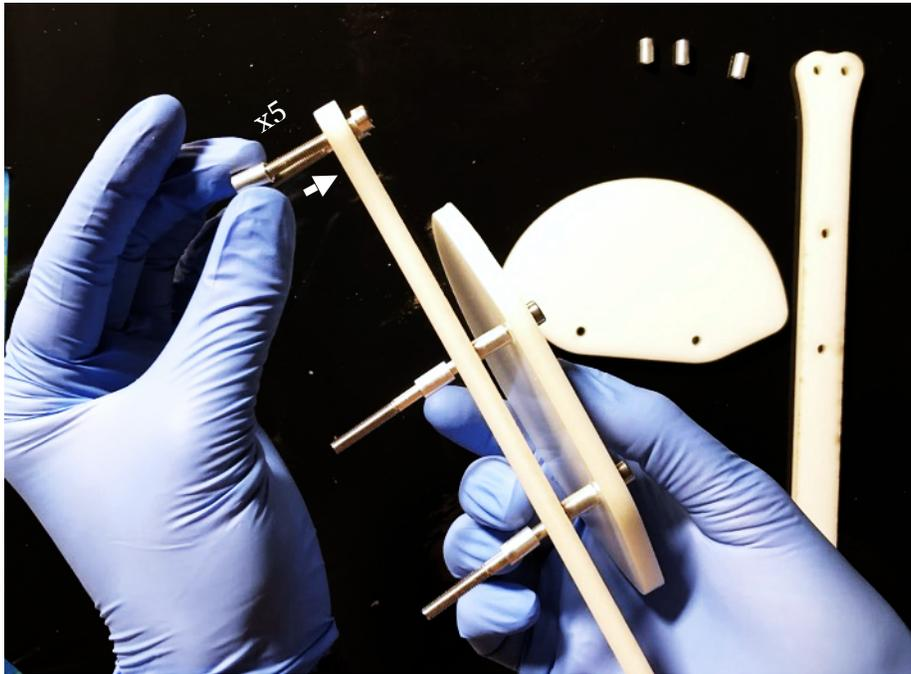

Figure 5
Step 6: Place one 4.2mm x 10mm spacer [Part 5] on each of the five screws (Fig. 5). A total of five (5) spacers should be used on this step.